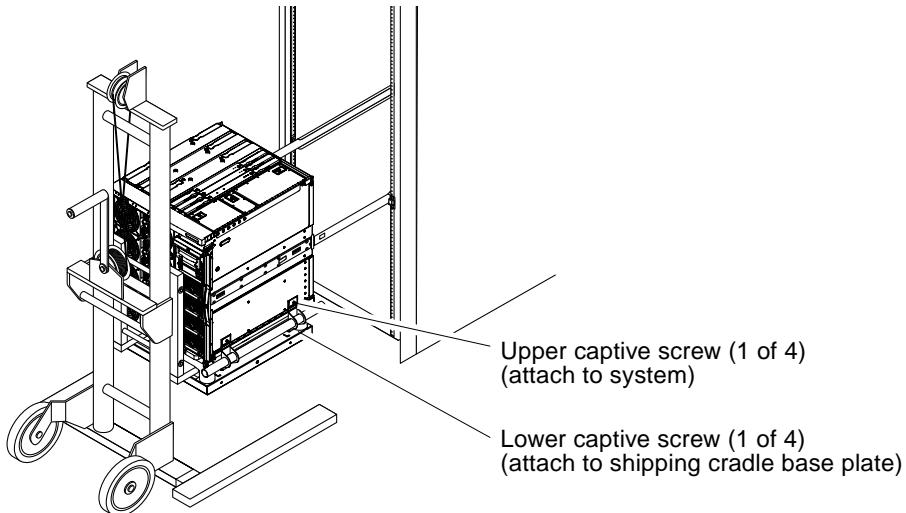

FIGURE 5 Attaching the Captive Screws
- 11. Slide the shipping cradle handles inward until they contact the sides of the system (FIGURE 5). Tighten all eight captive screws.**